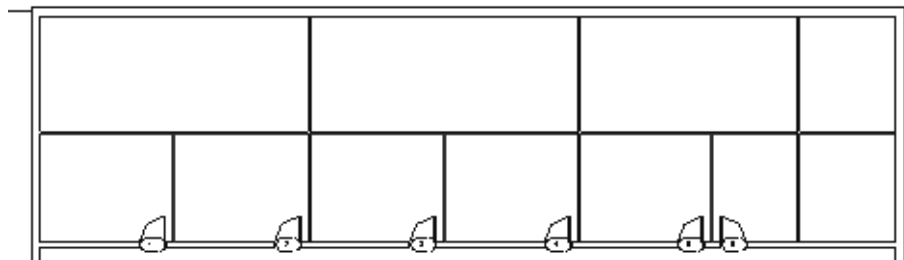

Figure 2-74
- Select every other wall **BELOW** the new wall. (Remember, you select the elements that you want to keep.) The walls should display as shown in Figure 2-74.